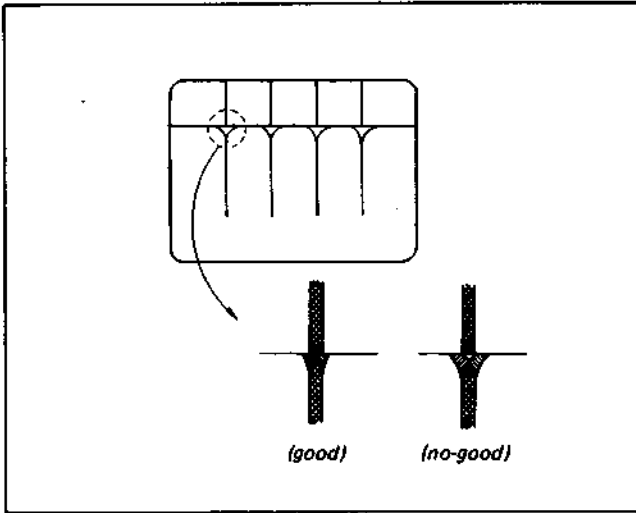
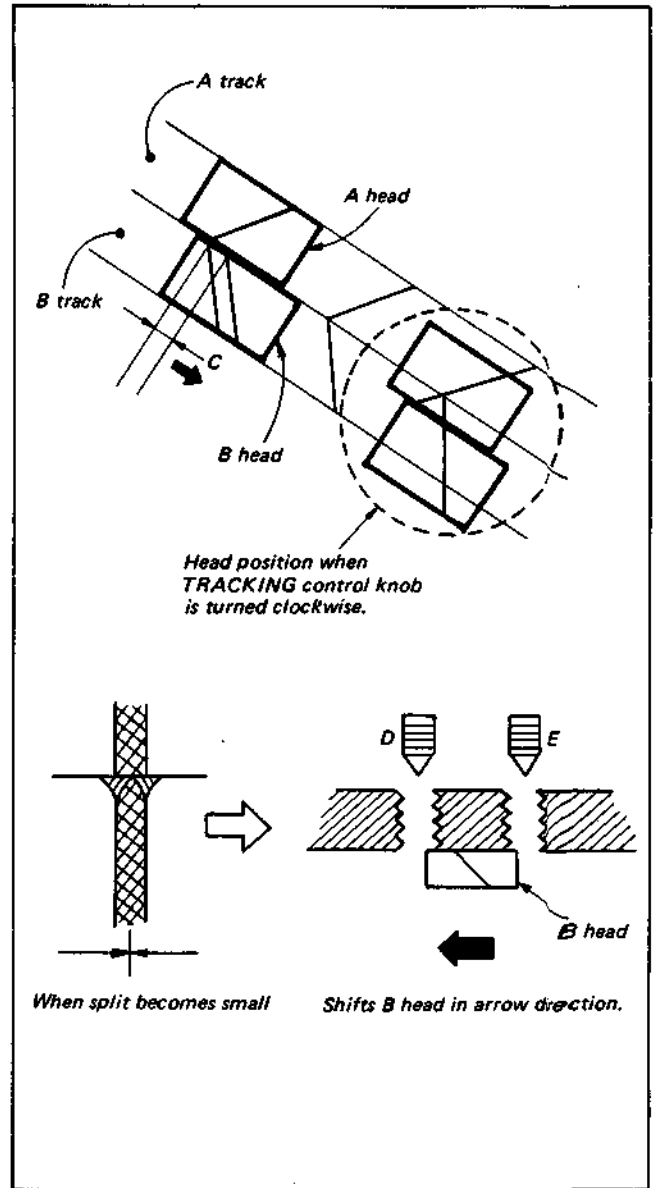
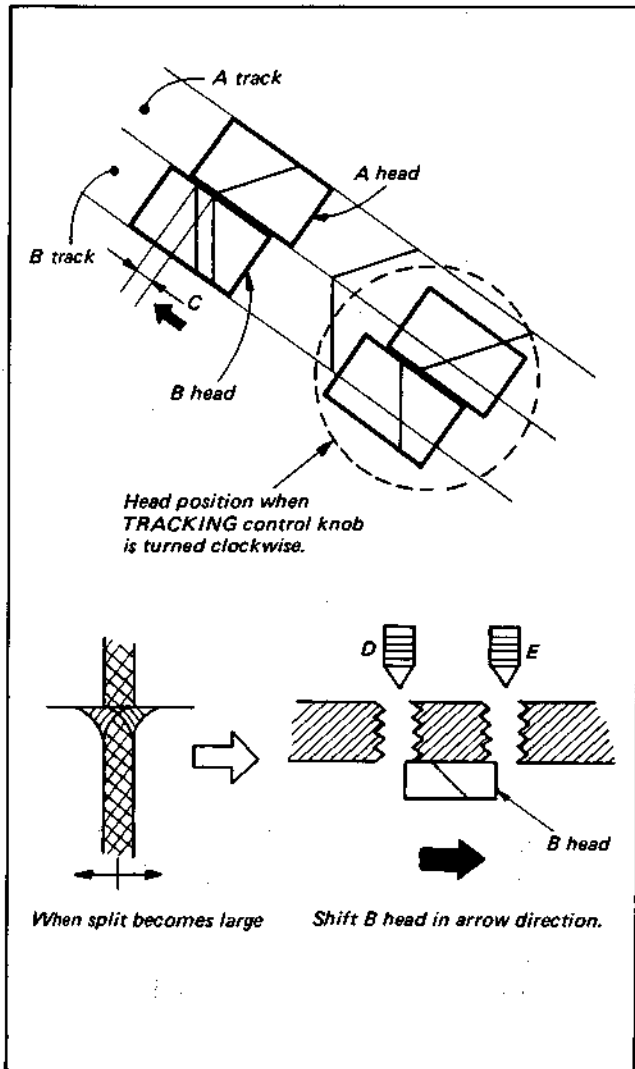

Fig. 3-54.
Fig. 3-56.
Fig. 3-57.
- The judgment of the video head dihedral must be performed in the condition that the monoscope signal segment of the alignment tape (KR5-1J) is played back and the TRACKING control knob is set to the center detent position. (See Fig. 3-54.)
- When the split becomes small for the clockwise turn of the TRACKING control knob, the B head shifts by C in the arrow direction as shown in Fig. 3-56 and is tracing the magnetic pattern on the tape. The adjusting screw in adjustment hole E shown in the figure must be tightened further to shift the B head in the left direction until the good dihedron shown in Fig. 3-54 is obtained. Set the TRACKING control knob to the center detent point.
- (2) When the split becomes large for the clockwise turn of the TRACKING control knob, the B head shifts by C in the arrow direction as shown in Fig. 3-57 and is tracing the magnetic pattern. The adjusting screw in adjustment hole D shown in the figure, must be tightened further to shift the B head in the right direction until the good dihedron shown in Fig. 3-54 is obtained. Set the TRACKING control knob to the center detent point.